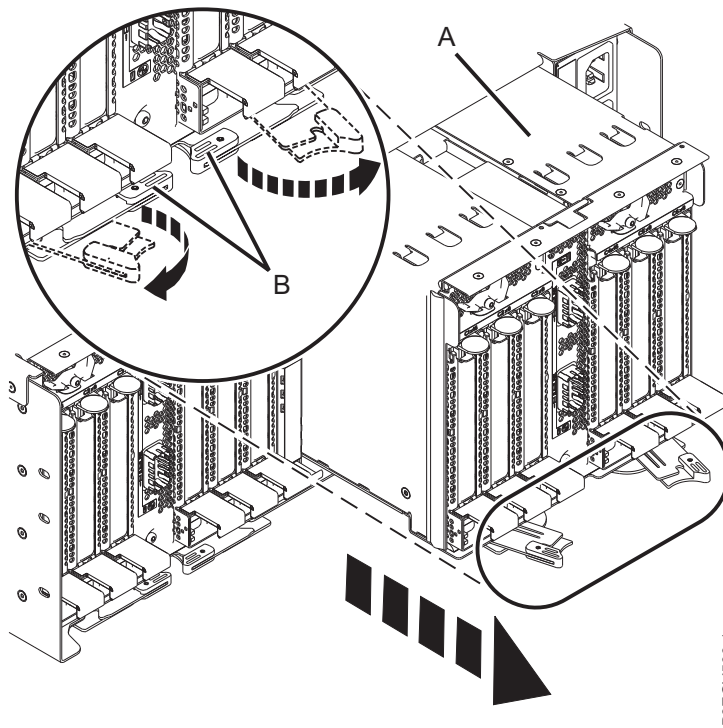

Figure 4. Opening the release latches
3. Open the release latches (**B**) on the I/O module (**A**) by pulling them away from the rack. See Figure 4 on page 4.